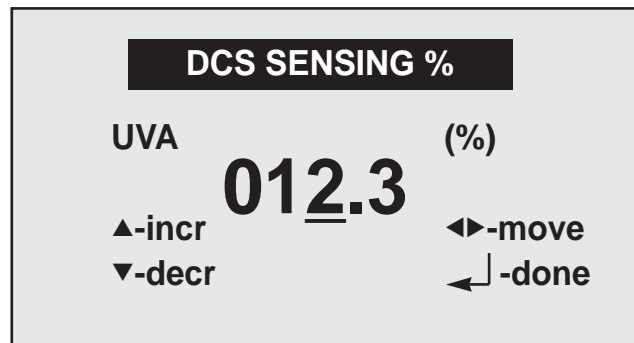

Figure 5. SENSING Setup
- 6] Use the arrow keys to select the Sensing item and press Enter. The display will appear as in Figure 5.